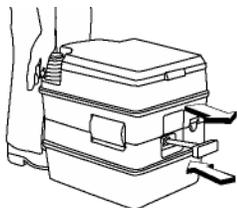

Figure J8: Porta Potti - Bellows Flush Operation
Before each use: With seat cover closed, open and close the holding tank valve (Figure J8) to vent any pressure that may have built up as a result of heat or altitude. This prevents upward splashing of bowl contents when toilet is flushed.
1. Pull out holding tank valve handle (Figure J8).